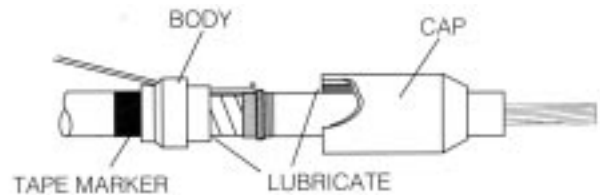

Figure 11.
- Lubricate mating surface of adapter body and bore of adapter cap using silicone lubricant supplied, and slide adapter cap over cable. Seat cap firmly against sealing shoulder of body. (Refer to Figure 11.) Remove tape marker.